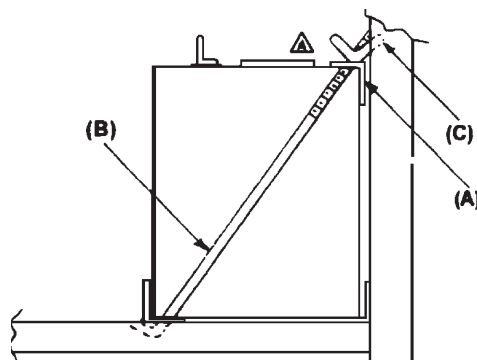

Figure 3
2. Place battery bracket (A) over battery as shown in Figure 3 (opposite battery terminals).
3. Place "L" bolt (B) through top and bottom brackets and secure with wing nut (C).